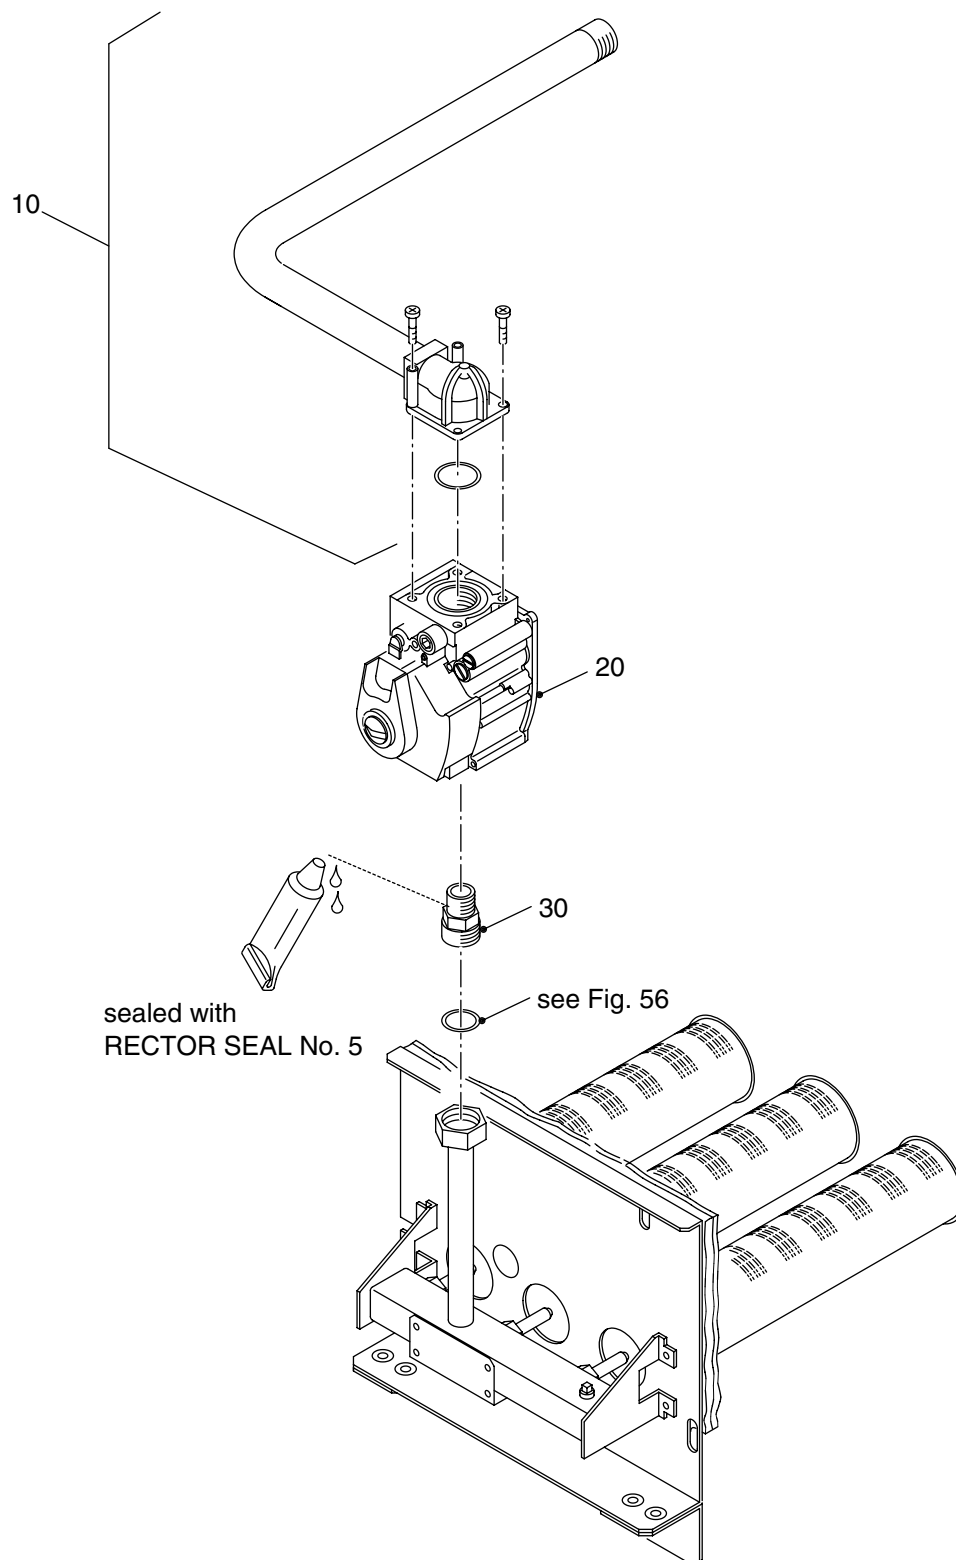

Fig. 55 Gas union for G124X II
**Gas union for G124X II (→ Fig. 55)**